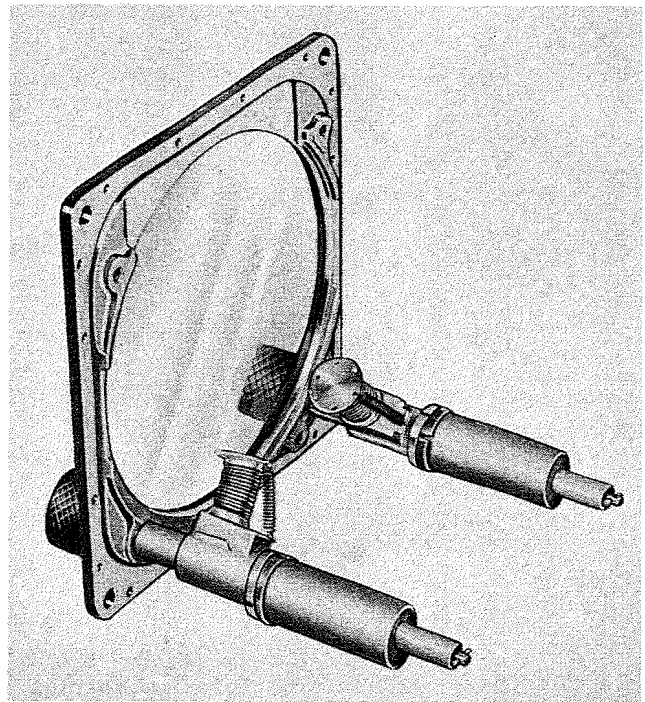

Figure 38E. Bezel Assembly
(4) Take out the four fillister-head screws and lock washers attaching the front bezel to the frame and remove the bezel assembly (figure 38E). This is done by pulling the bezel assembly forward and then slightly down so that the bellows will clear the frame. During this operation the two universal couplings will drop out. The bezel assembly is further disassembled, if necessary, as instructed in subparagraph 2A.c.(2).
(5) If the clutch is defective or repairs need to be made to the dial, pointer, or the